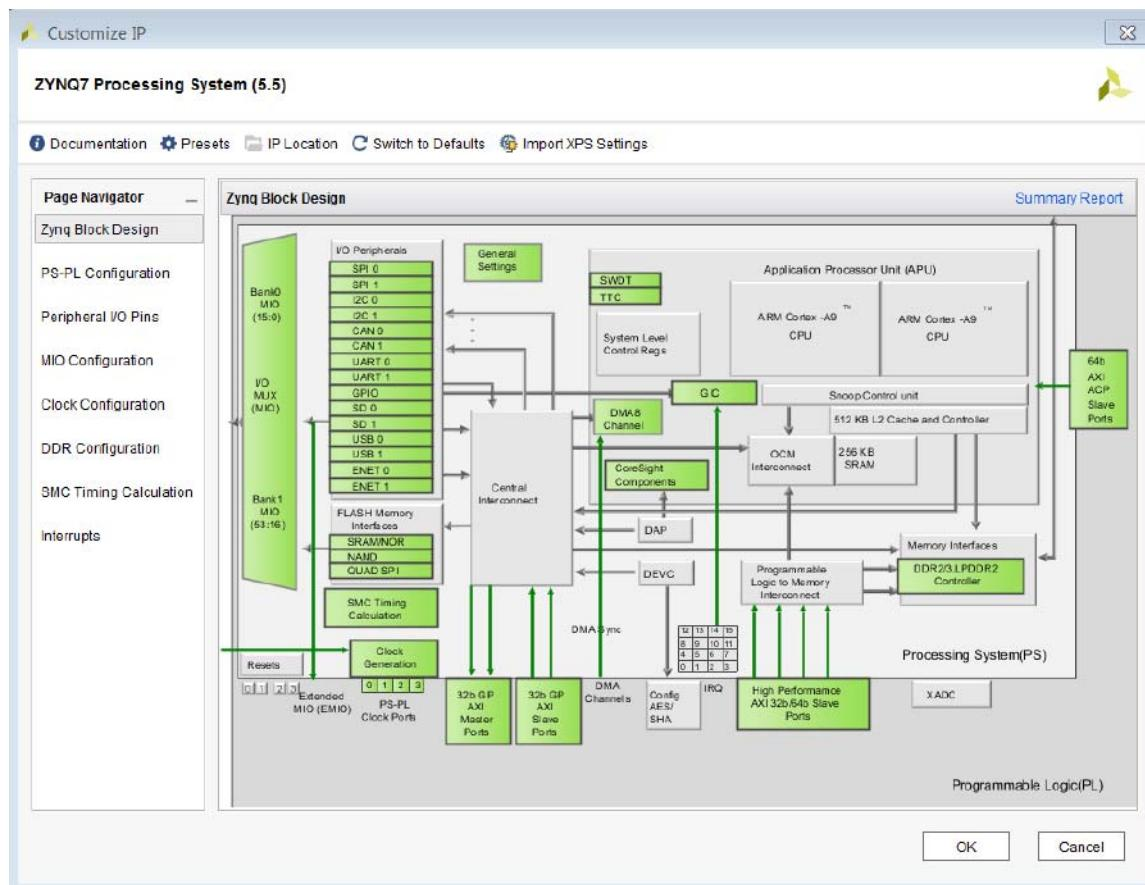

Figure 3-6: ZYNQ7 Processing System Configuration Dialog Box
The green colored blocks in the ZYNQ7 processing system (PS) are configurable items. You can click a green block to open the coordinating configuration options. Alternatively, you can select the options from the Page Navigator on the left, as shown in Figure 3-6.